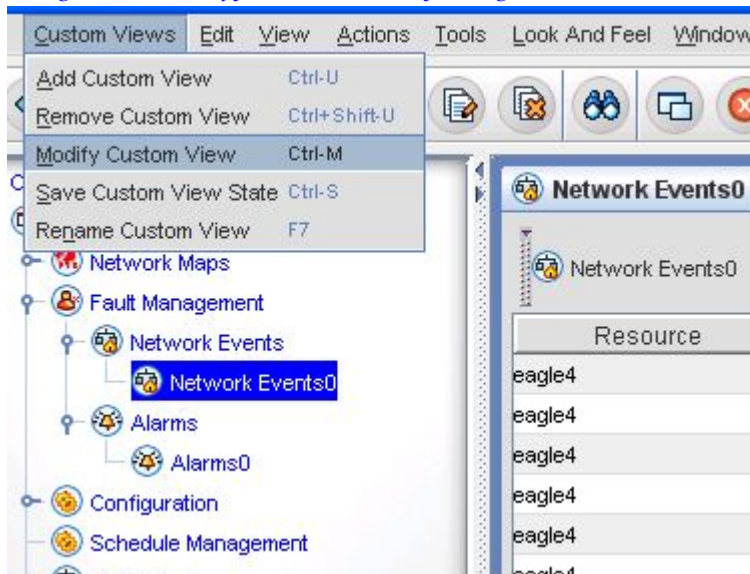

Figure 108: Modify Custom View By Using Menu Bar
- From the **Custom Views** menu in the top menu bar, choose **Modify Custom View** as shown in Figure 108: Modify Custom View By Using Menu Bar.